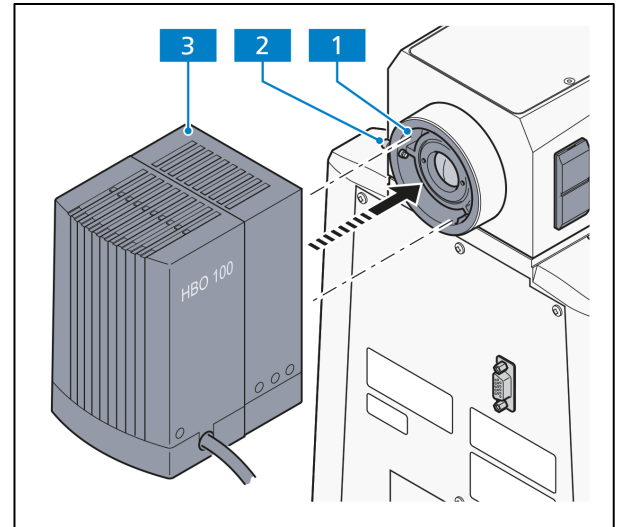

Fig. 3-33 Mounting the HBO 100
- Match the illuminator's (Fig. 3-33/5) dovetail ring to the connection piece on the stand. Ensure that the illumination cable is not being pinched or clamped.
- Tighten the clamping screw (Fig. 3-33/6 or 2) with the Allen wrench (AF 3).
- Remove the cover from the reflected light connection piece (Fig. 3-33/1).
- Insert the illuminator case (Fig. 3-33/3) with the dovetail ring in the reflected light connection piece (Fig. 3-33/1) on the back of the unit. Tighten the clamping screw (Fig. 3-33/2) with the Allen wrench (AF 3).